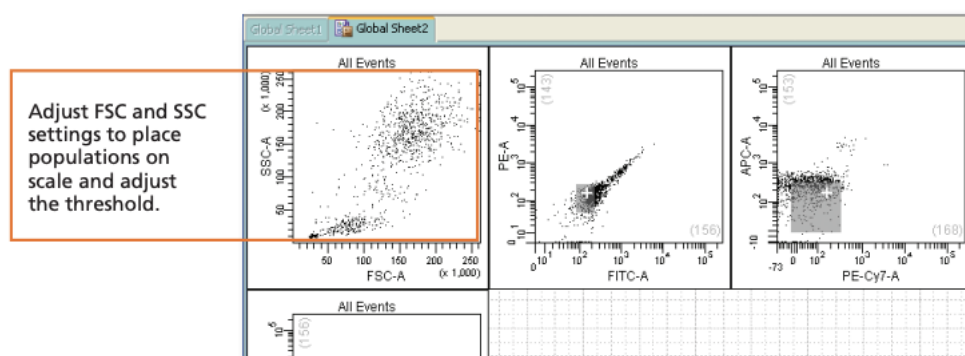

Figure 7 - Optimising PMT voltages for FSC and SSC
3. Adjust the cytometer settings (FSC and SSC voltages) to gate the cell population (see Figure 7).